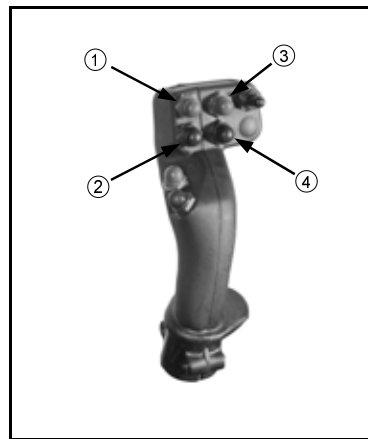

FIG 5.32
To increase or decrease the angle of each individual boom level, depress the left or right “GRAY” (UP) or the left or right “RED” (DOWN) buttons on the hydrostatic drive handle (fig. 5.32, items 1 thru 4). While depressed, these buttons activate the level cylinders connecting either boom to the transom (fig. 5.31).